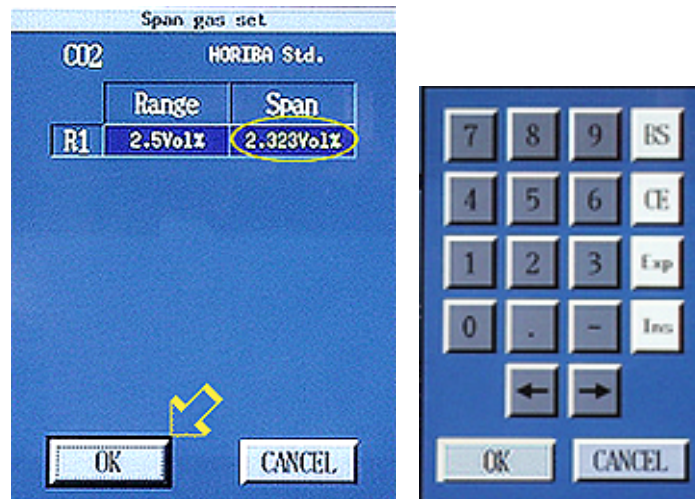

Figure 5
- 108 In the “Span gas set” menu that appears, verify that the “R1” value in yellow under “Span” agrees with the “Named Concentration” from the tag on the gas bottle to be changed in Step 102. If it is not the same, click in the field and use the on-screen keypad to enter the correct data. See the circle in Figure 5. On the Keypad, click on "OK."
On the Span gas set panel, click on “OK.” See the arrow in Figure 5.